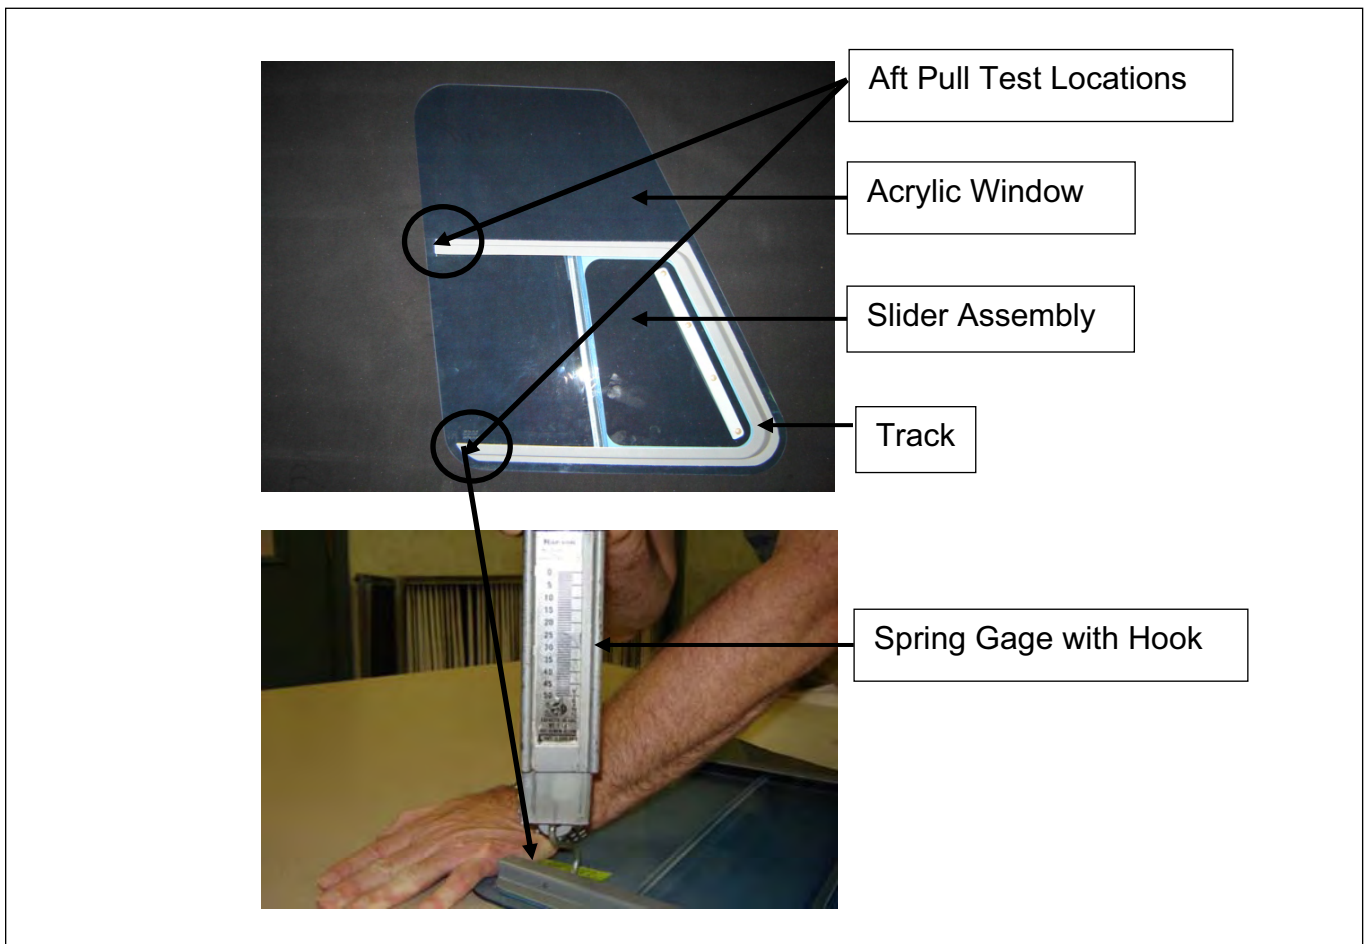

FIGURE 3 – Aft Pull Test Locations
Spring Gage (ref. Figure 3)
1. With the slider assembly in the full-closed (fwd) position from the exterior of the aircraft using the spring gage, insert the hook directly into the channel of the slider track at the aft end of the slider (ref. Figure 3). Pull outward on the slider track (away from the acrylic) until the gage reads 25 lbs. Visually inspect track frame of slider for any obvious signs that the frame is de-bonding from the acrylic.
2. Repeat step 1 at second track location indicated in Figure 3.